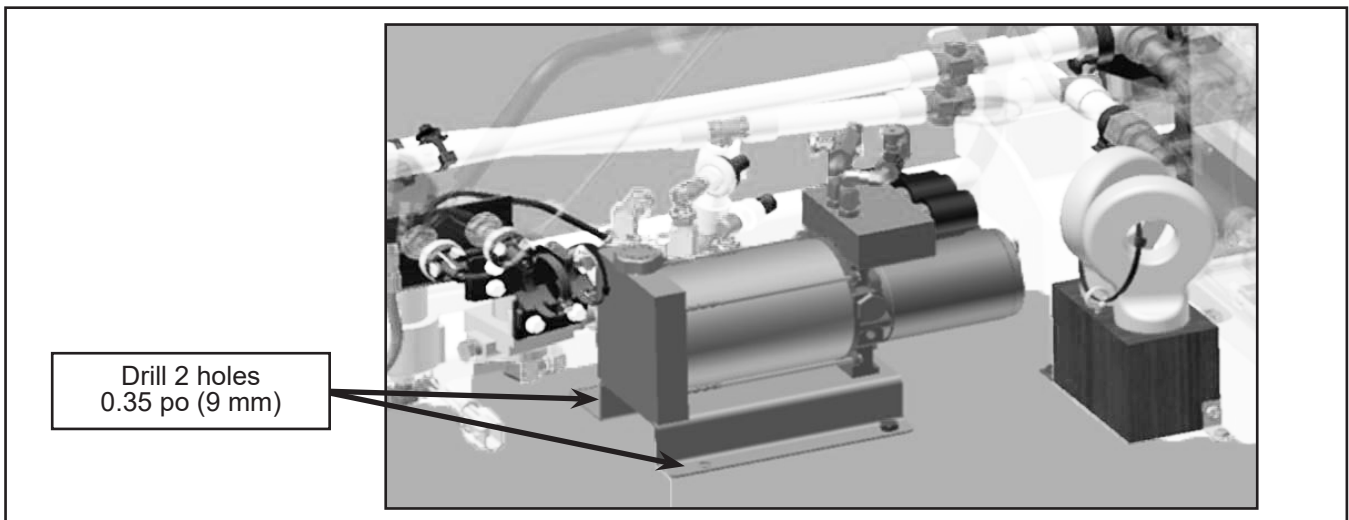

Figure 4 - Drill two new Holes
- 1.10. Inside the vehicle, position the HPU as shown in Figure 4.